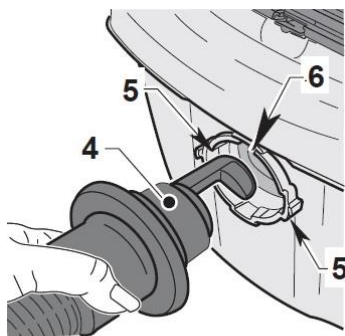

Fig. 3
2. Press/twist lock hose end clockwise into inlet, aligning the arrow on the hose end with the top of the inlet (6 Fig. 3).
3. Disconnect hose by turning hose end (4 Fig.3) counter clockwise.
7. Reconnect hose by turning hose end (5 Fig.3) clockwise into the housing, aligning the arrow from the hose end with the top of the opening (6 Fig.3).